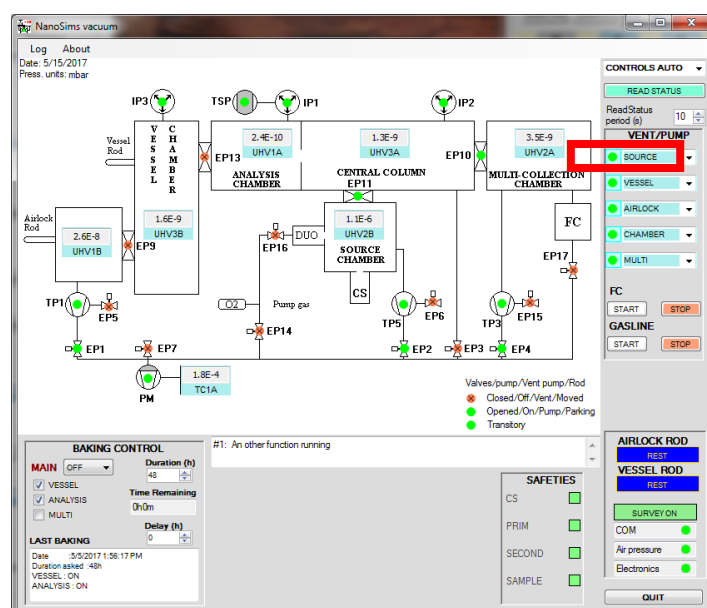

Figure 455: vacuum synoptic window
- On the vacuum synoptic window, vent the source only, by clicking on "source" in the menu on the right, and select "vent" (Figure 455)